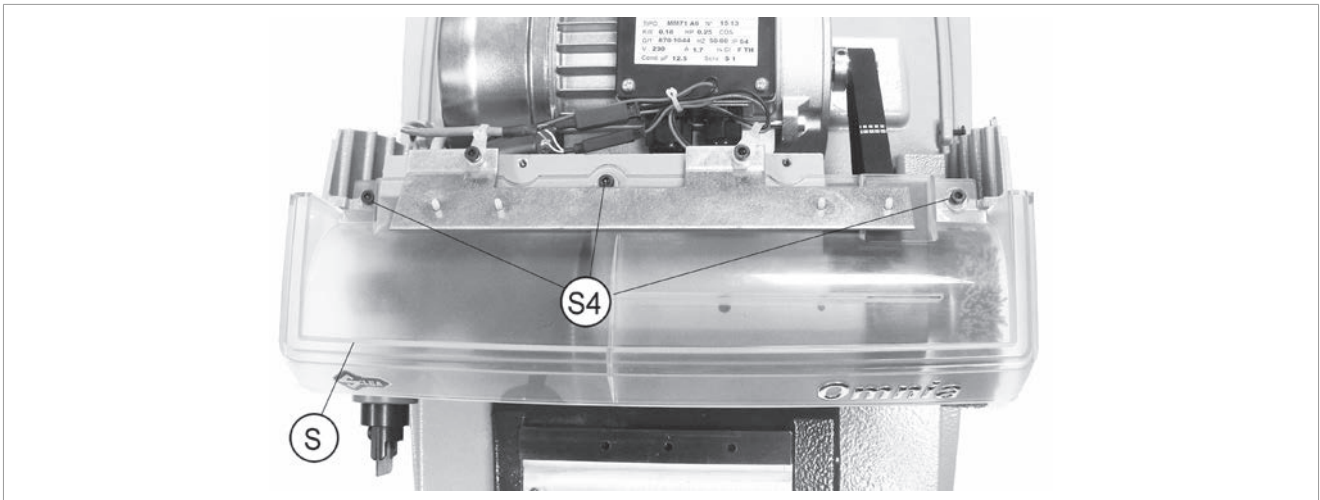

Fig.80
- 3) Loosen the 3 screws (S4) and remove the Plexiglas shield (S) (Fig.80).
- 4) Place the new shield (S) in position and secure with the screws (S4).
- 6) Loosen the 3 screws (S4) and remove the Plexiglas shield (Fig.80).